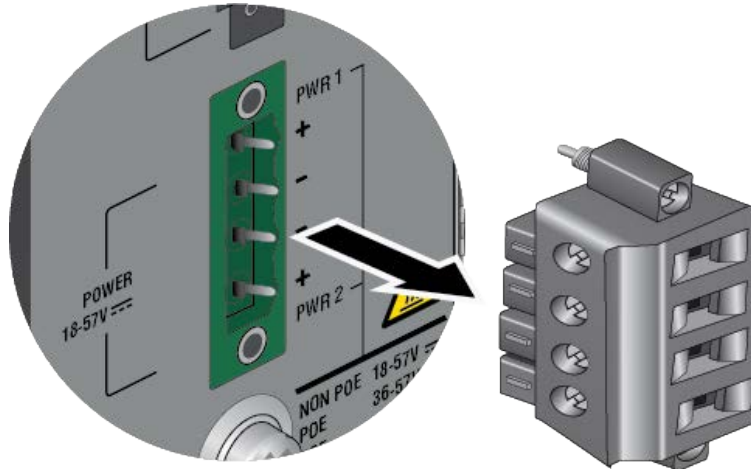

Figure 65. Removing the POWER Plug
- Remove the POWER plug from the front panel. Refer to Figure 65.